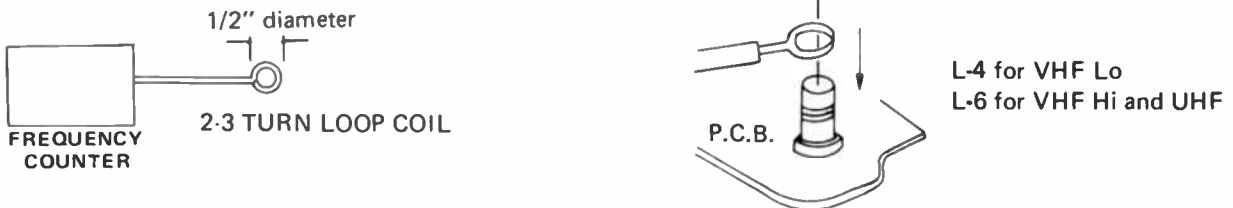

FIGURE 11. LOCAL OSCILLATOR COUPLING
- Step 2: With no antenna or signal generator connected, ground TP-3 (on Main PCB) and couple the frequency counter thru a pickup coil to oscillator coil L6. Refer to Figure 11.